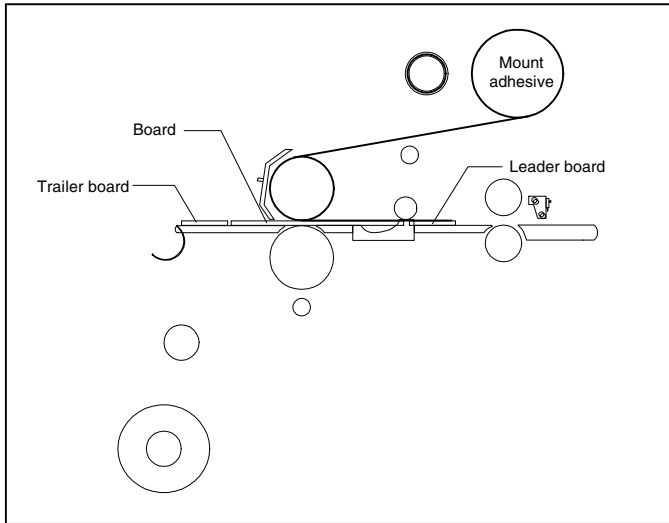

Fig. 35
TIPS FOR PRE-COATING BOARDS (Figure 35)
1. Load the laminator as illustrated in Figure 35.